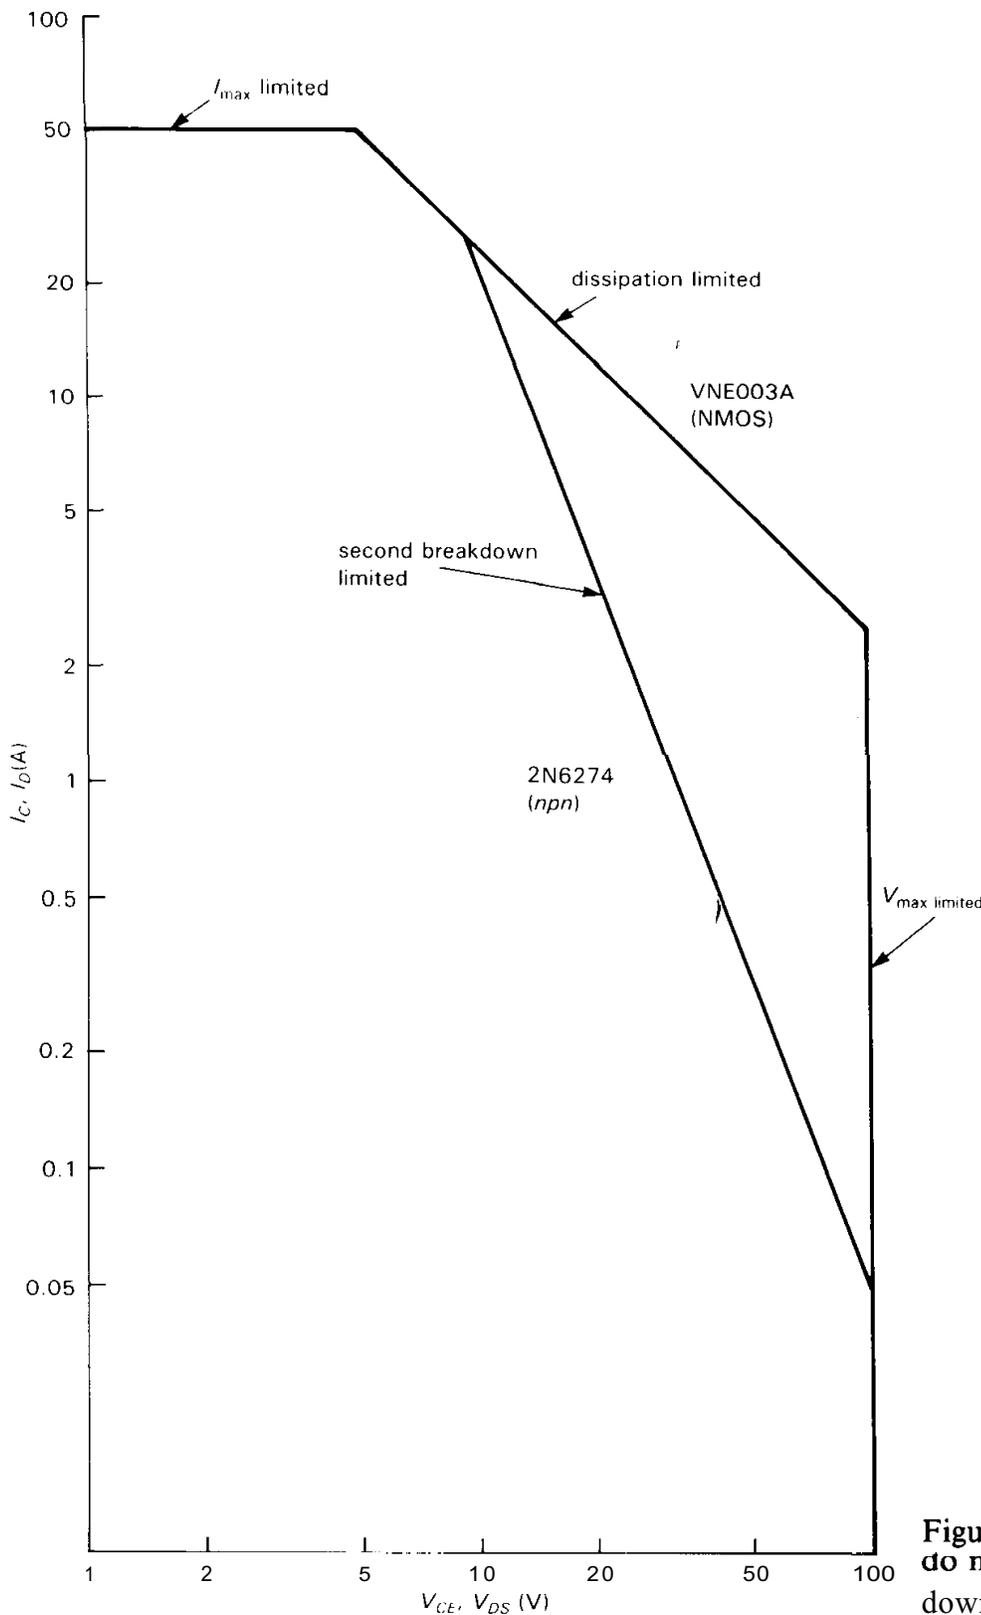

Figure 3.66. Power MOSFETs do not suffer from second breakdown.
these junction hot spots entirely. MOSFETs have no second breakdown, and their safe operating area (SOA) is limited only by power dissipation (see Fig. 3.66, where we've compared the SOAs of an *npn* and an NMOS power transistor of the same  $I_{\max}$ ,  $V_{\max}$ , and  $P_{\text{diss}}$ ). For the same reason, MOSFET power amplifiers don't have the nasty runaway tendencies that we've all grown to love in bipolar transistors (see Section 2.15), and as an added bonus, power MOSFETs can be paralleled without the current-equalizing "emitter-ballasting" resistors that are necessary with bipolar transistors (see Section 6.07).
□ **MOSFETs versus BJTs as high-current switches.** Power MOSFETs are attractive alternatives to conventional power BJTs most of the time. They currently cost somewhat more, for the same capability; but they're simpler to drive, and they don't suffer from second breakdown and consequently reduced safe-operating-area (SOA) constraints (Fig. 3.66).